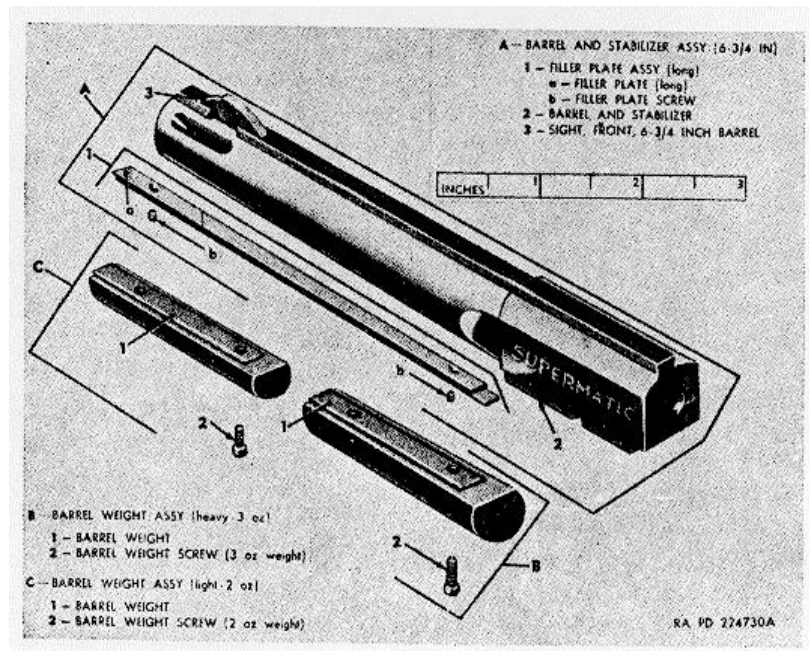

Figure 46. Barrel group-exploded view (high standard).
- (1) Depress magazine catch and remove magazine assembly (par. 10a).
- (2) Operate slide assembly (par. 10h), and unload any cartridge remaining in the chamber.
- (3) Move safety lever to SAFE position (par. 10b).
- (4) Depress the barrel plunger (par. 10f) and slide the barrel (fig. 46) off the front of the frame.
- (5) Release the safety lever (par. 10b).
- (6) Remove the slide assembly from the front of the frame.